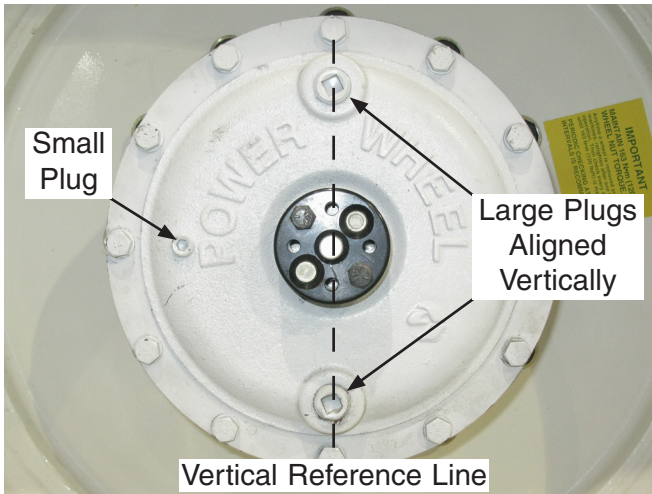

Figure 86. Wheel Drive
1. Park machine on a flat level surface with wheels positioned such that the two largest plugs are in the vertical position (see Figure 86).
3. To check the fluid level, remove the small plug (see Figure 86). Oil level should be at same level as bottom of hole.